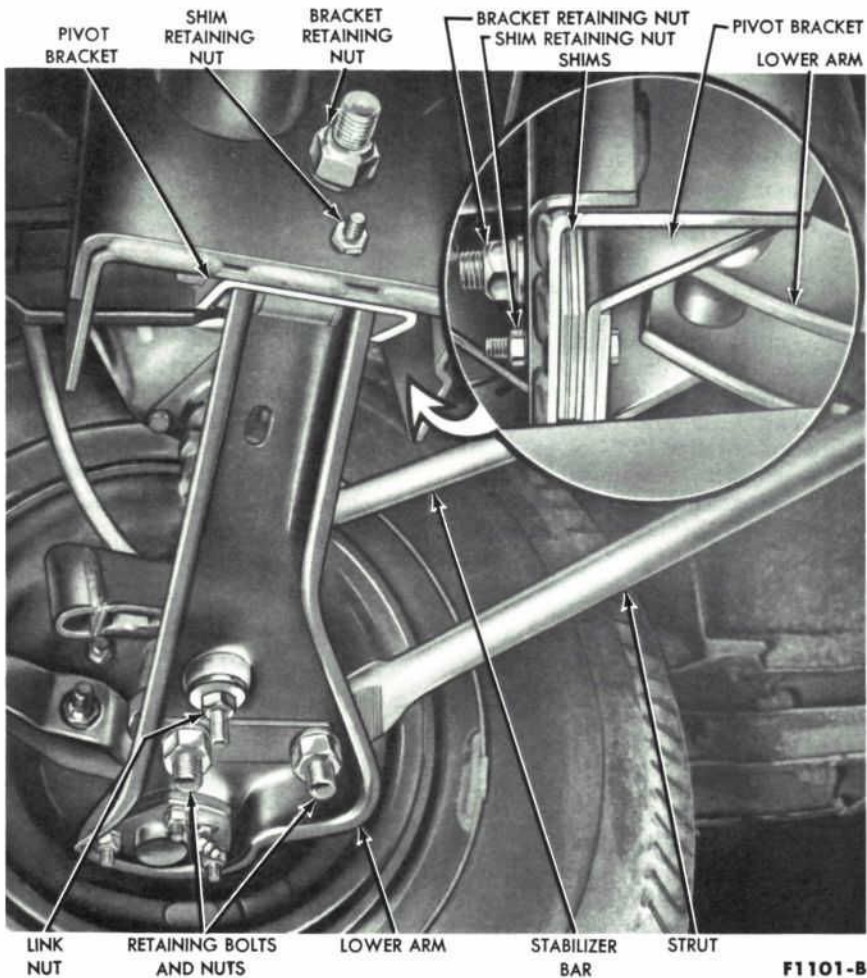
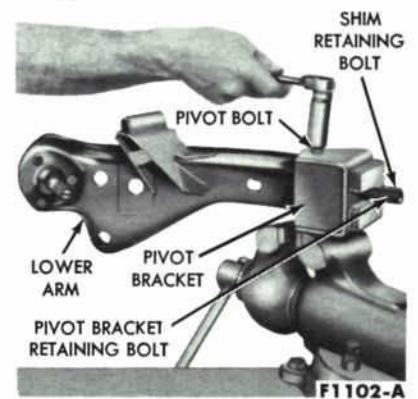

FIG. 104—Lower Suspension Arm Installed
FIG. 105—Lower Suspension Arm Assembly
Remove the link nut under the arm (Fig. 104), and disconnect the stabilizer link from the arm.
2. Remove the retaining nuts, bolts, washers, and plates, and then disconnect the strut from the lower arm (Fig. 104).
5. Remove the pivot bracket retaining nut and the shim retaining nut (Fig. 104), then remove the bracket and lower arm assembly from the car. Place the assembly in a vise and remove the nut from the pivot bolt (Fig. 105). Remove the pivot bolt and separate the pivot bracket from the lower arm.
1. Attach the pivot bracket to the new lower arm with the pivot bolt. Place the assembly in a vise, and install the pivot bolt nut (Fig. 105). Tighten the nut snug. Do not torque until the lower arm assembly is installed in the car. Slide the shims over the retaining bolts against the pivot bracket (Fig. 105). Position the lower arm and pivot bracket assembly to the
chassis mounting bracket (Fig. 104). Install the pivot bracket and shim retaining nuts. Torque to specifications.
2. Insert the lower ball joint stud in the lower bore of the wheel spindle, and install the stud nut. Tighten the nut to specifications, then continue to tighten until the cotter pin slots are aligned with the cotter pin hole. Install a new cotter pin. Position the lower arm strut to the lower suspension arm and secure in place with the retaining plates, bolts, washers, and nuts (Fig. 104). Torque the nuts to specifications.